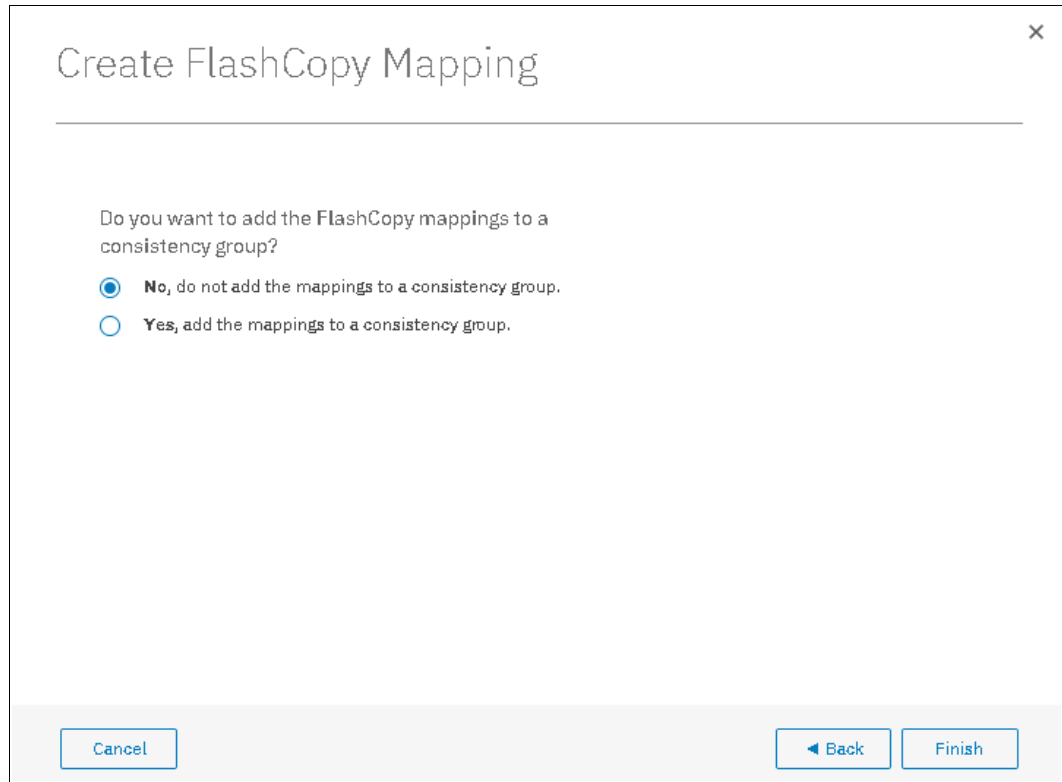

Figure 10-19 Add the mappings to a Consistency Group
7. Choose whether to add the mappings to a Consistency Group, as shown in Figure 10-19 on page 498. Click **Finish**.